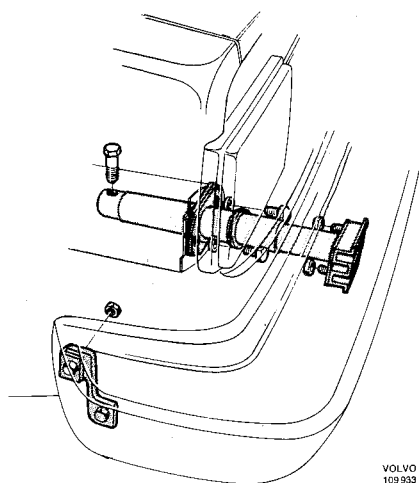

Fig. 8-100. Rear impact absorber
1. Remove the spacer rubber retaining plates (Fig. 8-100).
2. Remove two retaining bolts (Fig. 8-100) for the bracket.